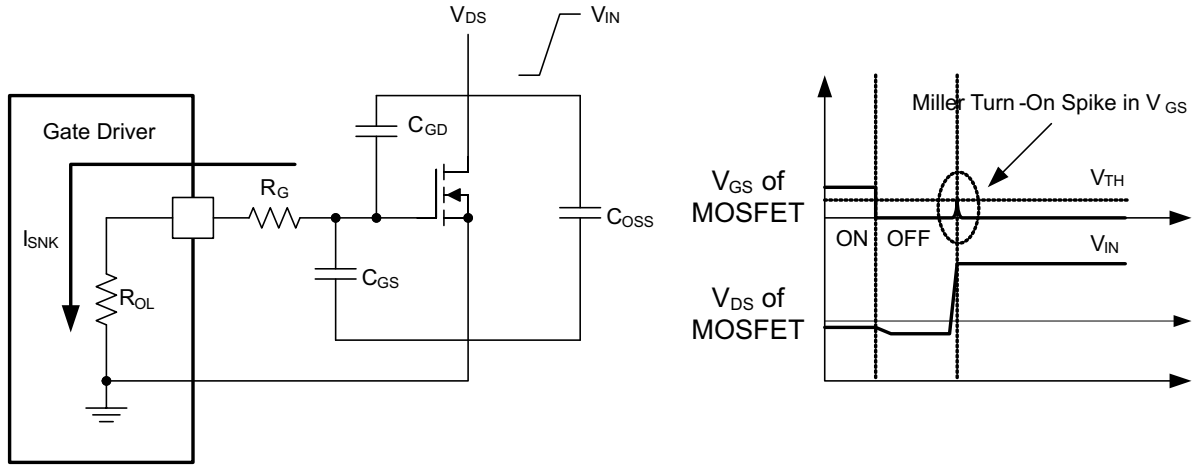

Figure 7-3. Low Pull-Down Impedance in UCC27614 (Output Stage Mitigates Miller Turnon Effect)
An example of a situation where Miller turnon is a concern is synchronous rectification (SR). In SR application, the dV/dt occurs on MOSFET drain when the MOSFET is already held in OFF state by the gate driver. The current charging the C_{GD} Miller capacitance during this high dV/dt is shunted by the pulldown stage of the driver. If the pulldown impedance is not low enough then a voltage spike can result in the V_{GS} of the MOSFET, which can result in spurious turnon. This phenomenon is illustrated in Figure 7-3.